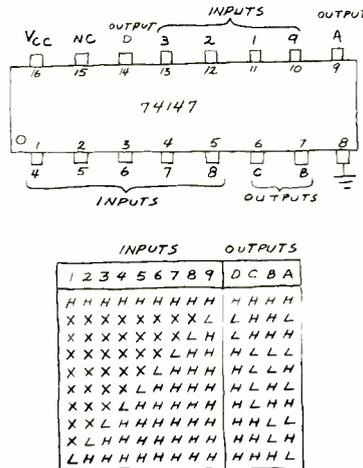

Fig. 2. Pin outline and truth table for the 74147. tronics Marketplace" section of POPULAR ELECTRONICS.
Figure 2 shows both the pin outline and truth table of the 74147. Notice that an active input is low (L) while an inactive input is high (H). The status of each input below that with the highest priority is irrelevant. Therefore, these "don't care" states are indicated by X's.